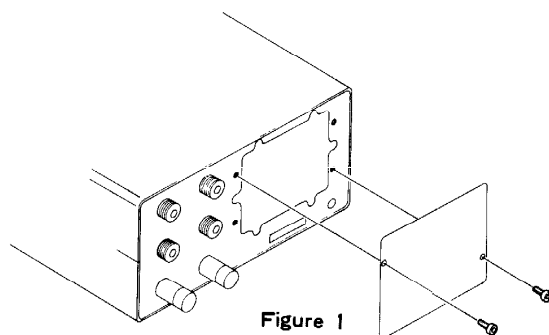

Figure 1
1. Remove the subpanel on the rear of the FC-102 as shown in Figure 1.